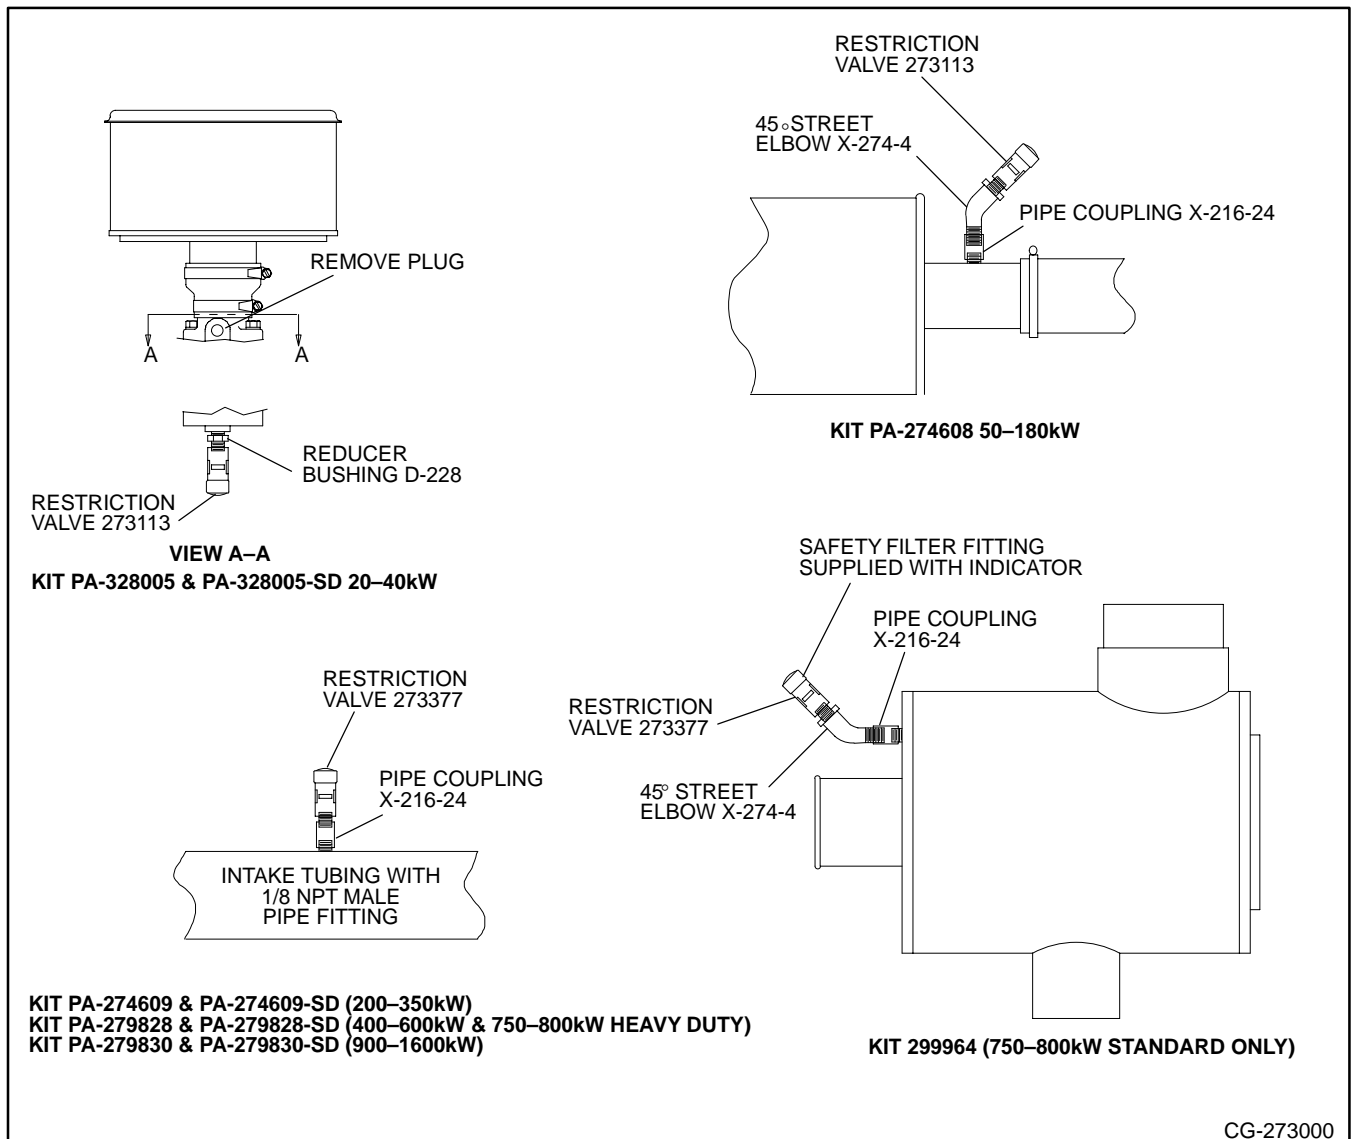

Figure 2. Restriction Gauge Installation
3. Install 1/8-in. NPSC x 0.81-in. pipe coupling (X-216-24) on fitting(s), see Figure 2.